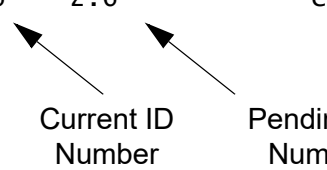

Figure 204. SHOW STACK Command
An example of the window is shown in Figure 204 on page 334.
4. Enter the `SHOW STACK` command to confirm your change. Refer to Figure 204 on page 334. The Priority column should now be displaying the new priority number for the chassis.